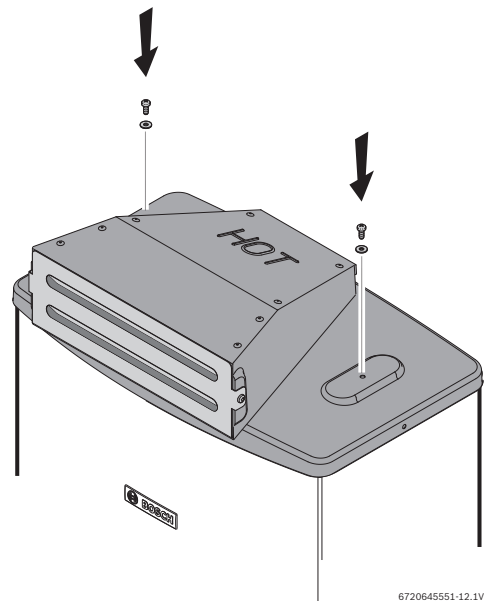

Fig. 8
- ▶ Attach the outdoor vent cap to the appliance by fastening the two provided screws and washers, see Fig. 8.